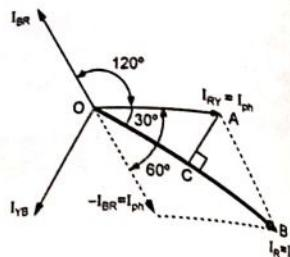

Fig. 4.10.2
• The phasor diagram to obtain line current  $I_L$  by carrying out vector subtraction of phase currents  $I_{RY}$  and  $I_{YB}$  is shown in the Fig. 4.10.2.